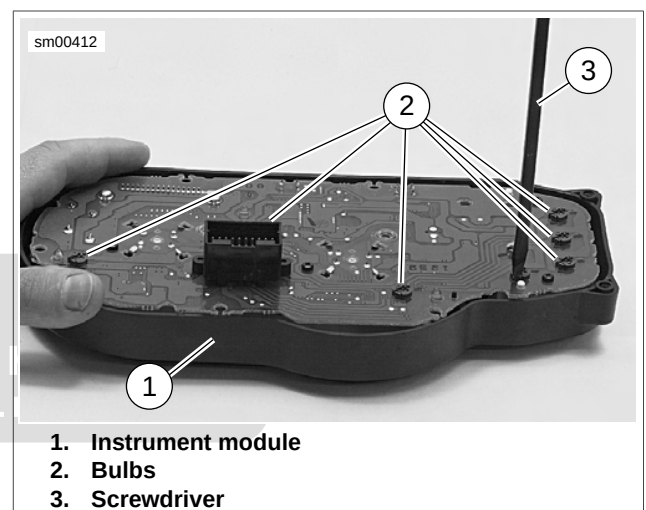

Figure 7-80. Bulb Replacement for Instrument Module
3. See Figure 7-80. Insert screwdriver blade into the slot on the back of the bulb to be replaced and lightly turn counterclockwise and remove bulb.